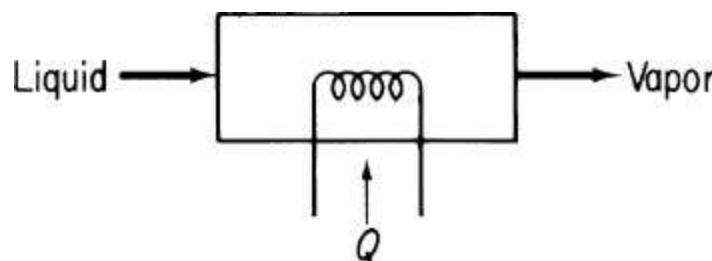

Figure P12.2
12.2. Determine the number of degrees of freedom for the reboiler shown in Figure P12.2. What variables should be specified to make the solution of the material and energy balances determinate?